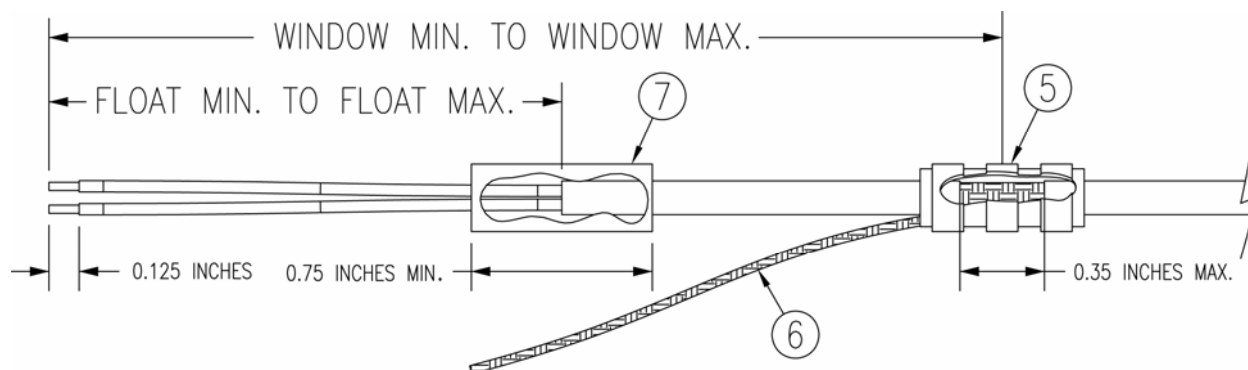

Figure 12-2. Method A.1 for Shield Termination
2. At one end of a shielded cable (item 4) measure a distance between “Window Min” to “Window Max” (Table 12-5) and cut a window (max size 0.35”) in the jacket to expose the shield (see Figure 12-2). Use caution when cutting the jacket to avoid damaging the individual braids of the shield. When dealing with a densely populated connector with many cables, it may prove beneficial to stagger the windows throughout the “Window Min” to “Window Max” range. If staggering is not needed the “Ideal Window” length is recommended.
3. Connect a Flat Braid (item 6) to the shield exposed through the window of the prepared cable assembly (item 4) from step 2. The Flat Braid should go out the front of the termination towards the connector. It is not permitted to exit the rear of the termination and loop back towards the connector (see Figure 12-2). Make this connection using an approved shield termination technique.
4. At the same end of the shielded cable (item 4) and ahead of the previous shield termination, strip back “Float Min” to “Float Max” (Table 12-5) length of jacket and shield to expose the insulated center conductors (see Figure 12-2). The “Ideal Float” length may be best to build optimally.